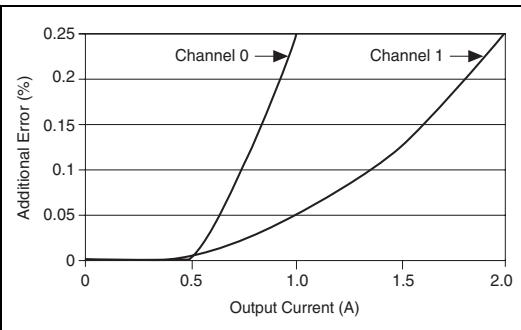

Figure 3. Accuracy Derating versus Load Current
* For currents $\geq 500\text{ mA}$, refer to the additional derating information in Figure 3, Accuracy Derating versus Load Current.
* For currents ≥ 500 mA, refer to the additional derating information in Figure 3, Accuracy Derating versus Load Current.